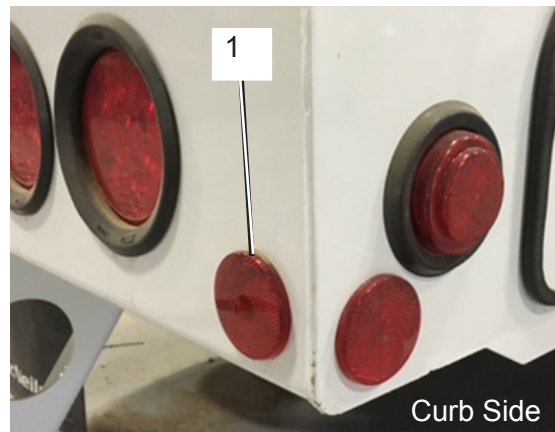

Figure 6
5. Install that reflector on the rear facing curb side corner of the CNG tailgate (Figure 6), as close to the rear corner as practical.